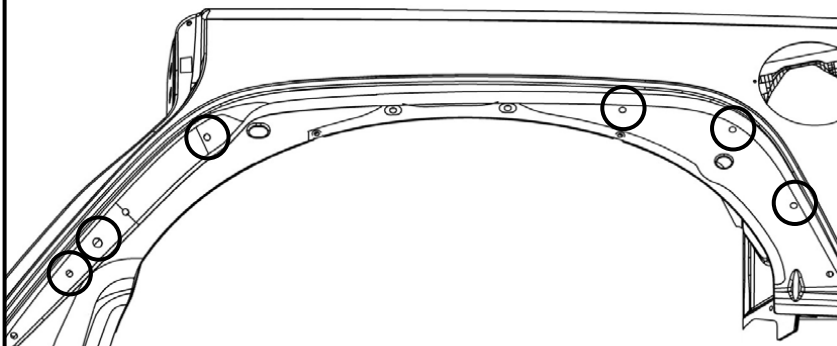

Figure 4
4. Drill the pre-existing holes along the vehicle fender area to prepare them for riv-certs. Use a 25/64" drill bit. See **Figure 4**. **Note:** Holes accessible from the rear do not need to be drilled.
Repeat (3) Steps for every drilled hole from **Figure 4**.